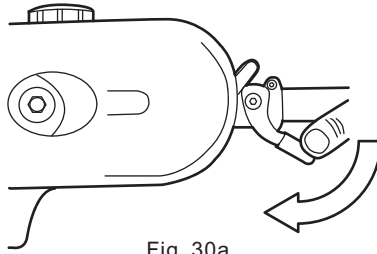

Fig. 30a
1. Press the locking lever (D8) downward and hold it in position. (See Fig. 30a)